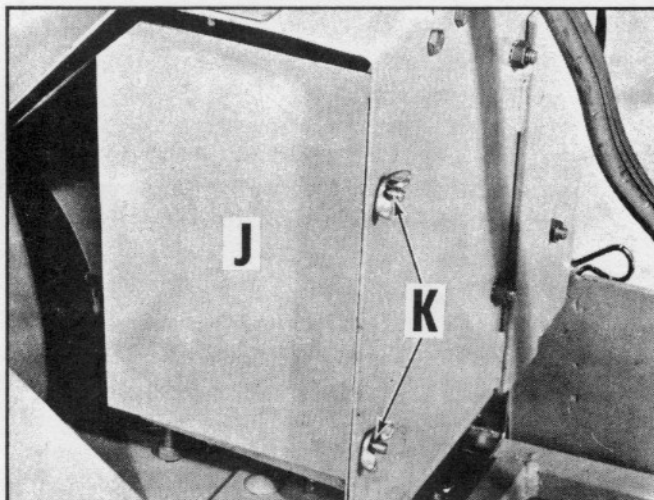
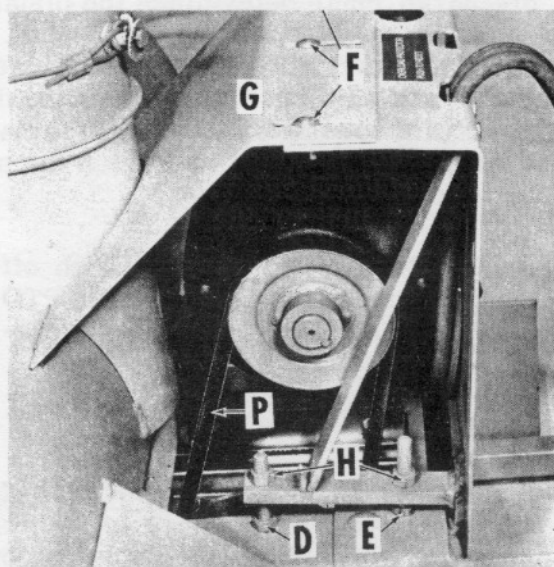

Fig. 7
Fig. 8
Remove side cover (J) on motor housing (Fig. 7). Loosen three wing nuts (F) on top cover (G). Loosen two mounting nuts (H) and tighten adjustment mounting bolt (D) to the correct setting for V-belt. Adjust mounting bolt (E) to same setting as (D). To hold setting retighten two mounting nuts (H). Slide cover (G) so it is snug against rear of header; retighten three wing nuts (F) (Fig. 8). Replace side cover (J) over motor housing, secure with two wing nuts (K) (Fig. 7).